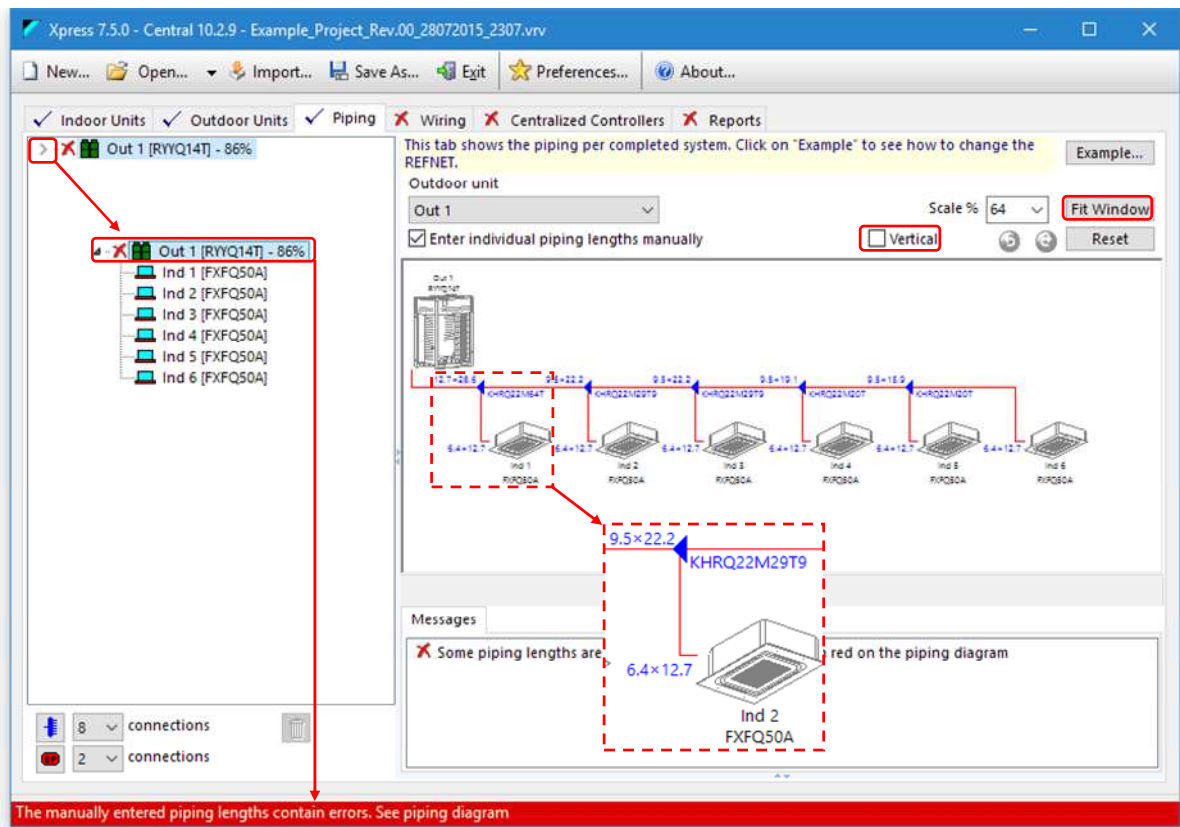

Figure 36: The initial piping diagram
Once you have entered the outdoor unit by closing the “*Edit Outdoor Unit Selection*” window by clicking the OK button, the “*Piping*” tab becomes available. Click on that tab to get a window, in which you will need a few clicks to get it exactly as shown in Figure 36:
- A small triangle represents a REFNET joint, as explained in section 1.1.3 and Figure 6. VRV\_Xpress adds the model number at its right. In Figure 36, there are three models used: KHRQ22M20T (the ones at the right in the diagram), KHRQ22M29T9 (the one zoomed in) and KHRQ22M64T (closest to the outdoor unit).